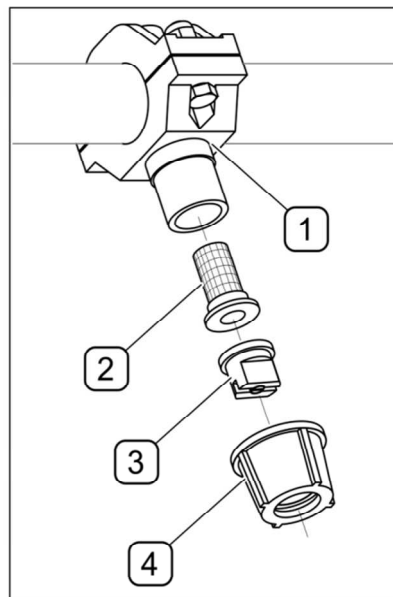

FIG. 5.19 Filters of sprinklers
(1) - bracket; (2) - filter; (3) - sprinkler; (4) - nut
Periodically confirm that sprinklers are not blocked and filters are clean (FIG. 5.19). There is a strainer (2) in the sprinkler. In order to clean the strainer, dismantle nut (4) with sprinkler (3). Rinse the strainer (2) or blow it with compressed air. Confirm that sprinkler (3) is not blocked. Check technical condition of sprinklers and, if necessary, replace damaged elements. The list of sprinkler elements TAB. 5.6